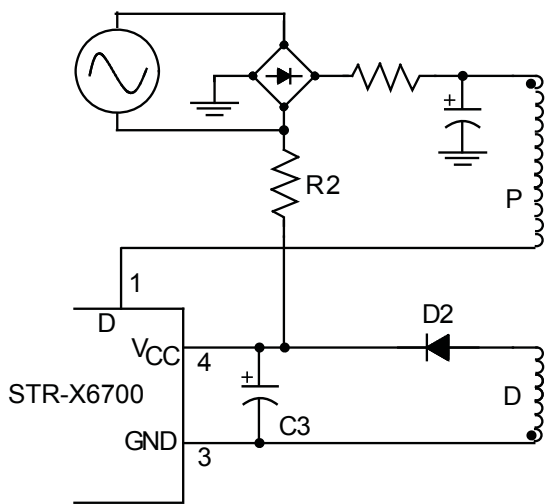

Figure 2. External start-up circuit.
**Start-up circuit** The start-up circuit detects the VCC pin voltage, and makes the control IC start and stop operation. The power supply of the control IC (VCC pin input) employs a circuit as shown in figure 2. At start-up, C3 is charged through a start-up resistor R2. The R2 value needs to be set for more than the hold current of the latch circuit (140  $\mu$ A max.) and to operate at the minimum AC input.